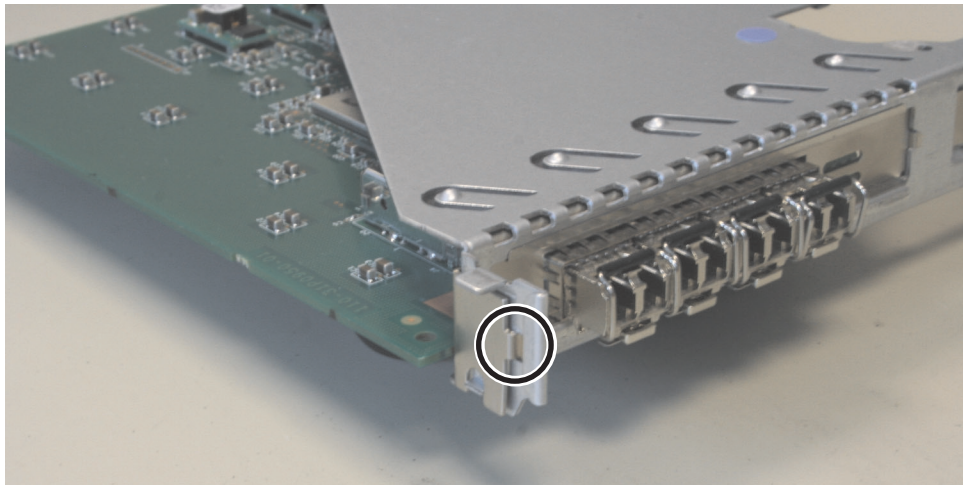

Figure 146. SAN Volume Controller 2145-8A4 riser-card assembly
2. Slide the fibre-channel adapter into position, keeping it close and parallel to the back edge of the riser card. Push the adapter securely into the connector. Ensure that the positioning clip on the adapter goes into the locating hole on the riser card, as shown in Figure 146.